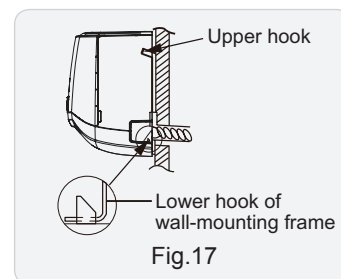

Fig.17
- Check if the indoor unit is installed firmly and closed to the wall. (As show in Fig.17)